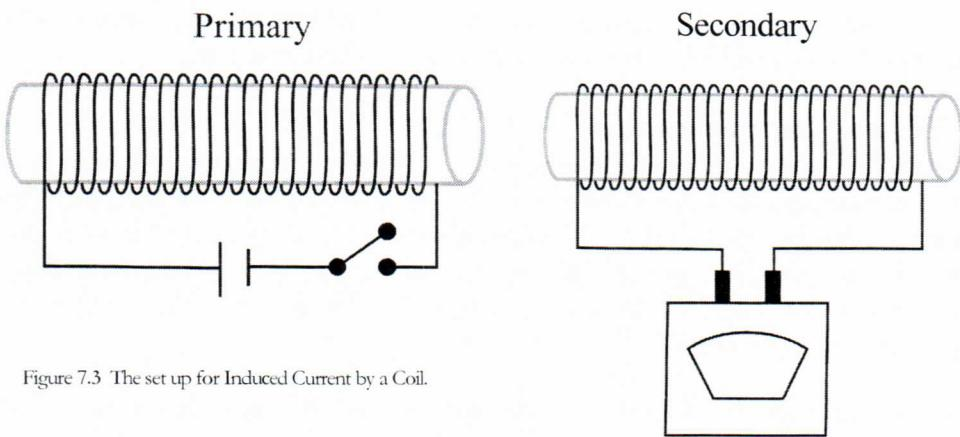

Figure 7.3 The set up for Induced Current by a Coil.
1. The metal support rod should run through the coils being used. Use the hooks attached to the coils to move them when called for. Add a switch in series with the coil and battery from activity 7.4.2 as shown. The coil connected to the battery is the primary coil. The coil set next to it connected to the galvanometer will be the secondary coil. See figure 7.3. The coils should have their windings go in the same direction and be no more than 2 cm apart on the support rod. The secondary coil will have the induced current and induced magnetic field due to the changing magnetic flux with in it.